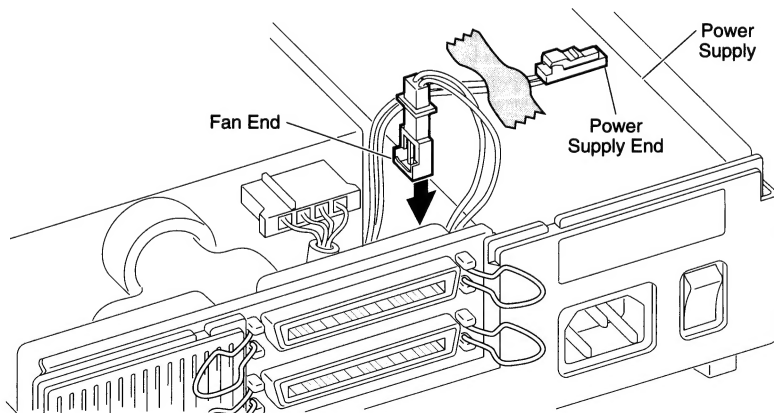

Figure 2 Disconnecting the AppleCD SC Fan
3. FIGURE 2. Tape the power-supply end of the fan cable to the top of the power supply.
4. FIGURE 2. Tuck the fan-end of the fan cable into the space in front of the fan.